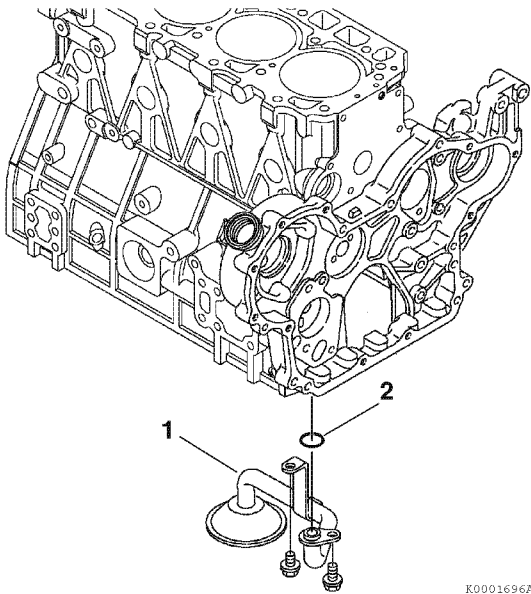

Figure 6-48
3. Remove the oil pickup tube (**Figure 6-48, (1)**) and O-ring (**Figure 6-48, (2)**).